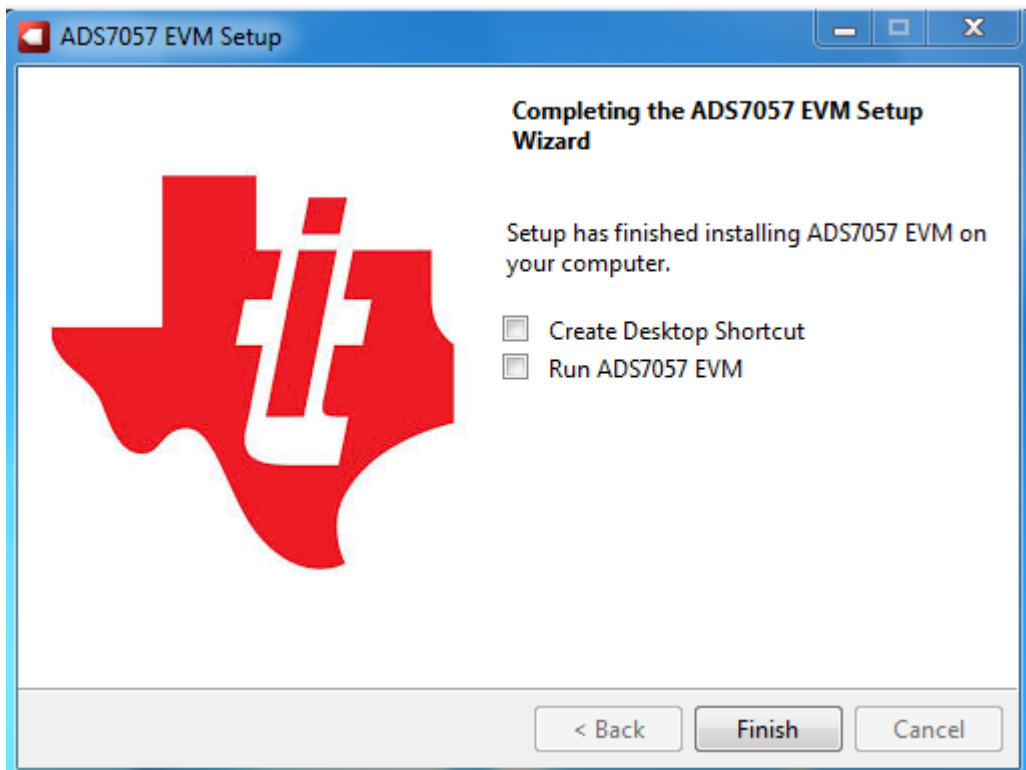

Figure 6. ADS7057EVM-PDK Installation Final Step
4. After these installations, check the *Create Desktop Shortcut* box, as Figure 6 shows.